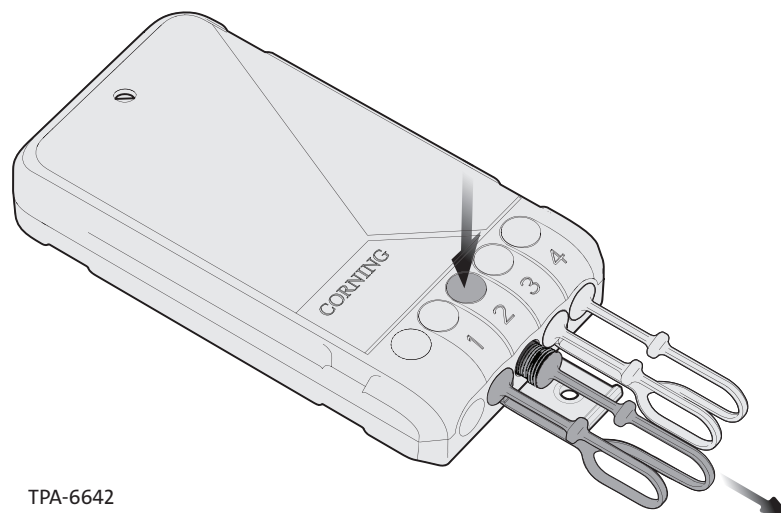

Figure 27
Step 1: Depress the button for the port and pull out the dust plug. Remove the dust cap from the connector (Figure 27).